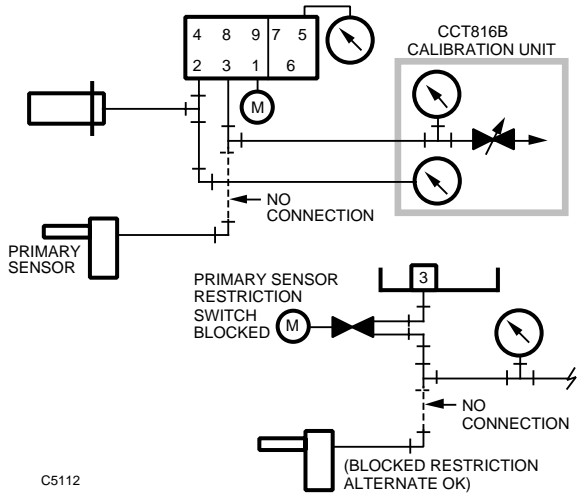

Fig. 11. RP920B setpoint (W_1) CCT816B Calibration Unit piping.
8. Set up the CCT816B Calibration Unit (Fig. 11) to connect to port 3 (primary sensor).